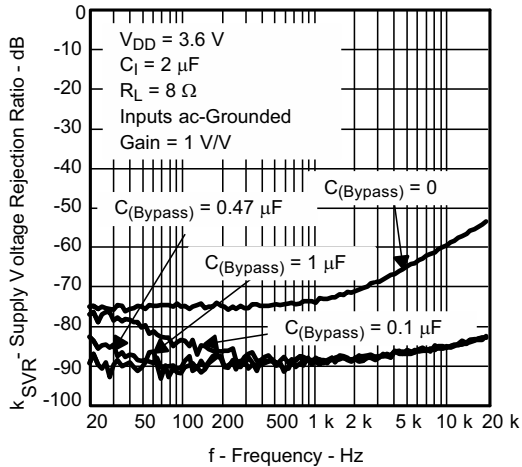

Figure 17. Supply Voltage Rejection Ratio vs Frequency
- **Mid-supply bypass capacitor,  $C_{(BYPASS)}$ , not required:** The fully differential amplifier does not require a bypass capacitor. This is because any shift in the mid-supply affects both positive and negative channels equally and cancels at the differential output. However, removing the bypass capacitor slightly worsens power supply rejection ratio ( $k_{SVR}$ ), but a slight decrease of  $k_{SVR}$  may be acceptable when an additional component can be eliminated (see Figure 17).